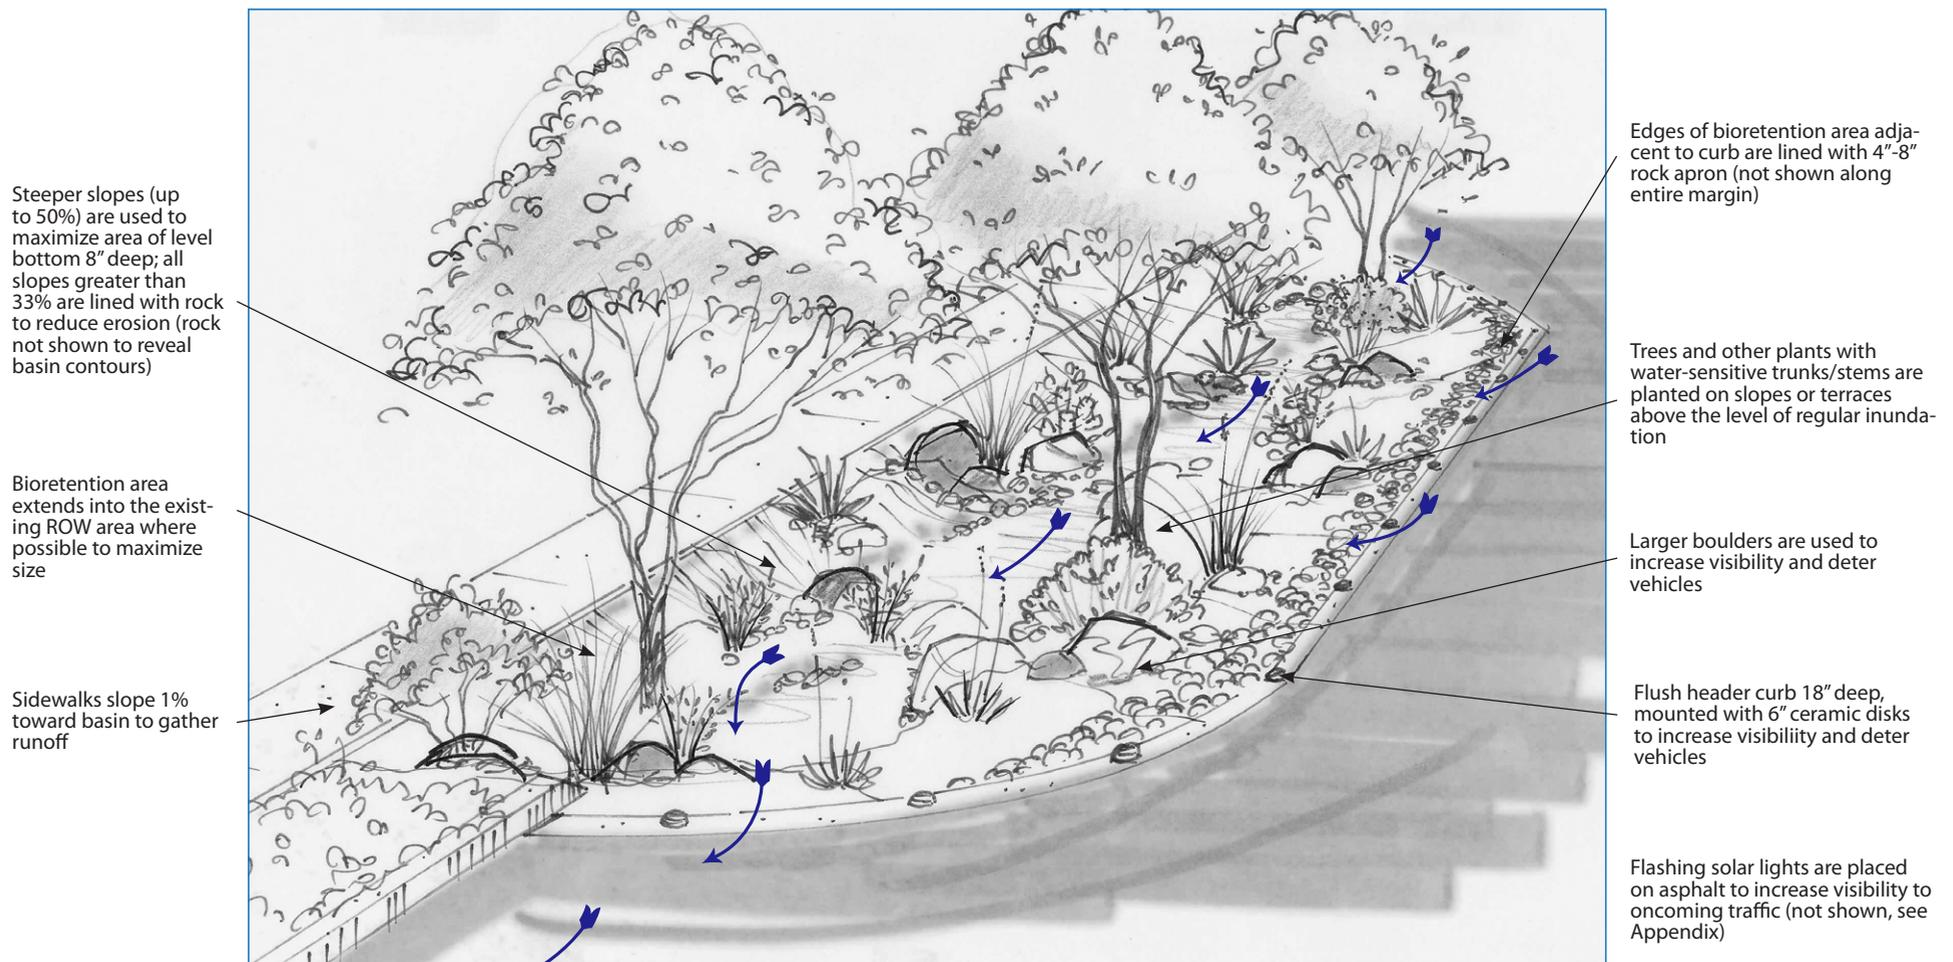

Figure 15. Conceptual drawing of a street width reduction with depressed bioretention area for a neighborhood street.
- Where possible, extend vegetated and depressed bioretention areas into the adjacent ROW. This may be achieved by laying ROW slopes back (see Figure 15 next page), or by pouring a new curb deeper into the ROW (see plan view in Appendix).